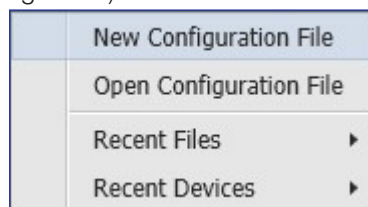

Figure 23. Configuration File Drop-Down List
1. From the **Configuration File** drop-down list, select **New Configuration File** (see figure 23).